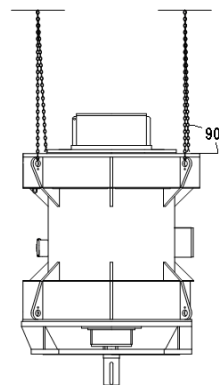

Figure 3.1: Vertical generator handling
- Vertical generators must be handled as shown in Figure 3.1;